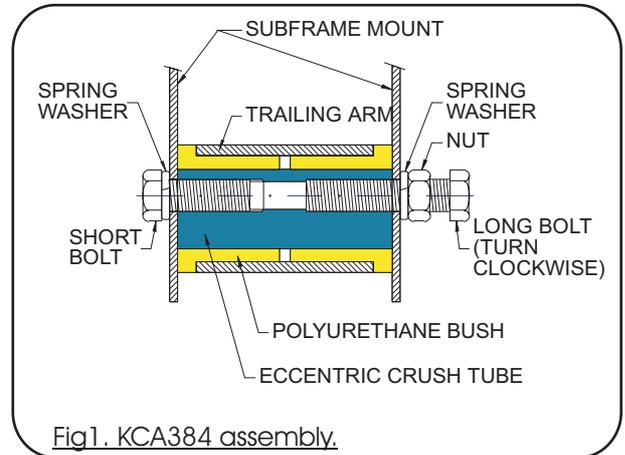

Fig1. KCA384 assembly.
6. Reconnect trailing arm to cross-member as per Fig.1. Ensure that long bolt (fitted with nut and washer) is positioned to the side with the most access. Screw long bolt in completely until it bottoms out in the thread and starts to turn the eccentric metal crush tube.